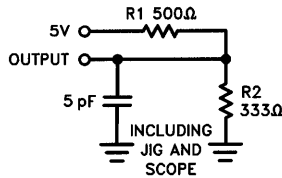

Figure 1b
8. t_{DVR}, t_{BDV}, t_{HZR}, t_{TBD}, t_{BHZ}, t_{EBD}, t_{ESD}, t_{TSD}, t_{LZR}, t_{HWZ}, and t_{BLZ} use capacitance loading as in Figure 1b.